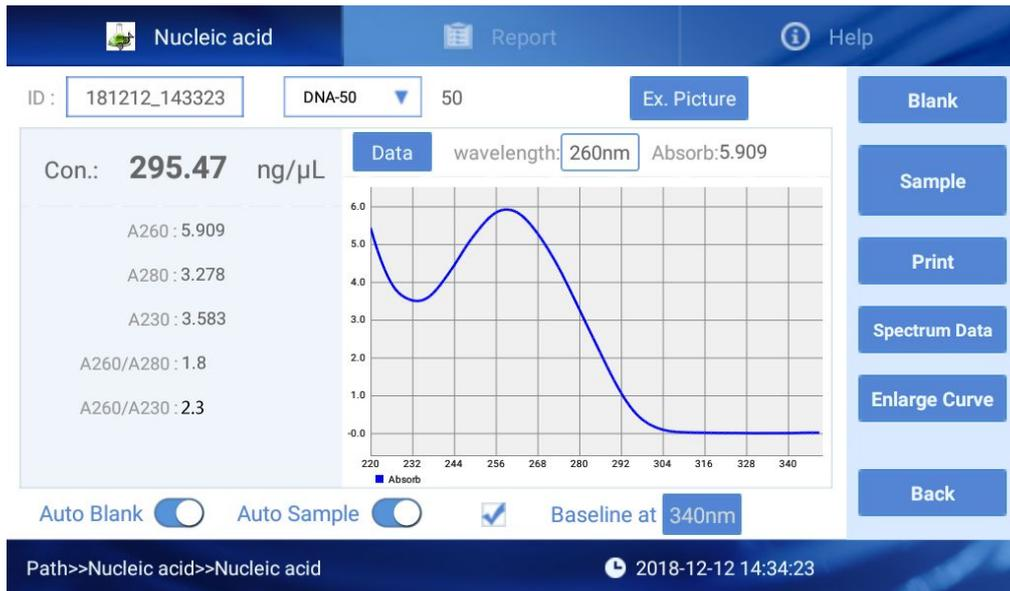

Fig 4.4 Result of Nucleic Acids measurement
- ① Set the batch NO. and Nucleic Acids type;
- ② Clean the upper and lower pedestals with dust proof paper, input the 2 $\mu$ L buffer solution to make blank;
- ③ Clean the buffer solution on the over pedestals with dust proof paper;
- ④ Measure sample with volume of 2 $\mu$ L. Click “Measure” and then enter the interface as Fig 4.4;
- ⑤ After measurement, pedestals must be cleaned before next measurement.
3) The detection result data will display as Fig 4.4.